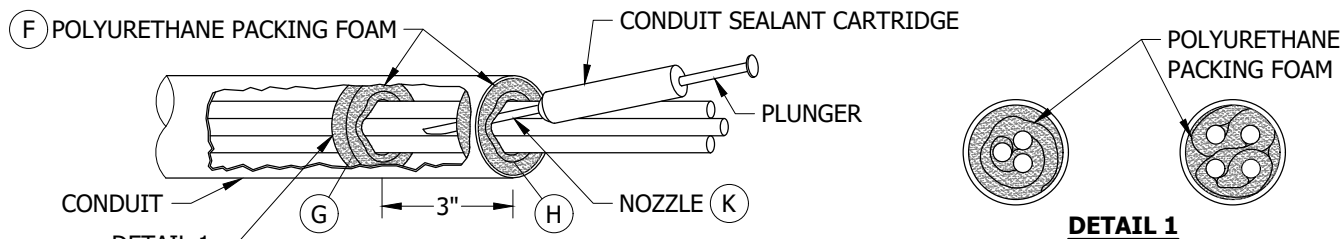

FIGURE 1
- (F) WRAP PACKING FOAM AROUND CABLES AT THE CONDUIT ENTRANCE AS SHOWN IN FIGURE 1. USE AS MANY FOAM STRIPS AS NEEDED TO ASSURE THERE ARE NO GAPS BETWEEN FOAM, CABLES, AND CONDUIT.
- (G) WITH A BLUNT OBJECT, PUSH PACKING FOAM BACK INSIDE CONDUIT 3 INCHES.
- (H) WRAP ANOTHER LAYER OF PACKING FOAM AROUND CABLES AT CONDUIT ENTRANCE THE SAME WAY AS FIRST LAYER. THIS FORMS A VOID INSIDE CONDUIT THAT WILL BE FILLED WITH SEALANT.